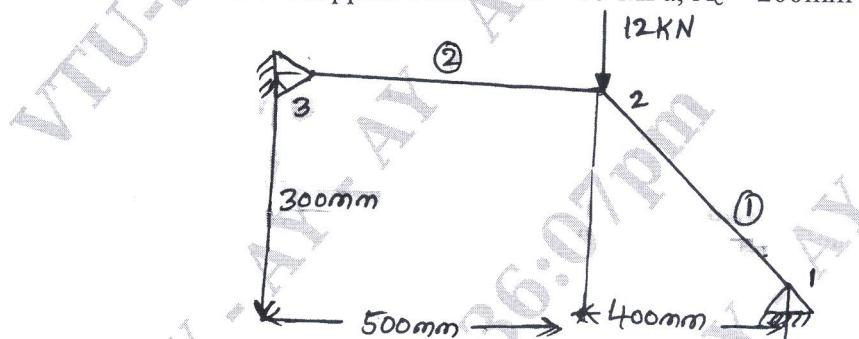

Fig Q6(b)
b. For the two bar truss shown in Fig Q6(b), determine the nodal displacement, stress in each element and reaction at the support Take $E = 2 \times 10^5 \text{ MPa}$, $A_e = 200 \text{ mm}^2$.